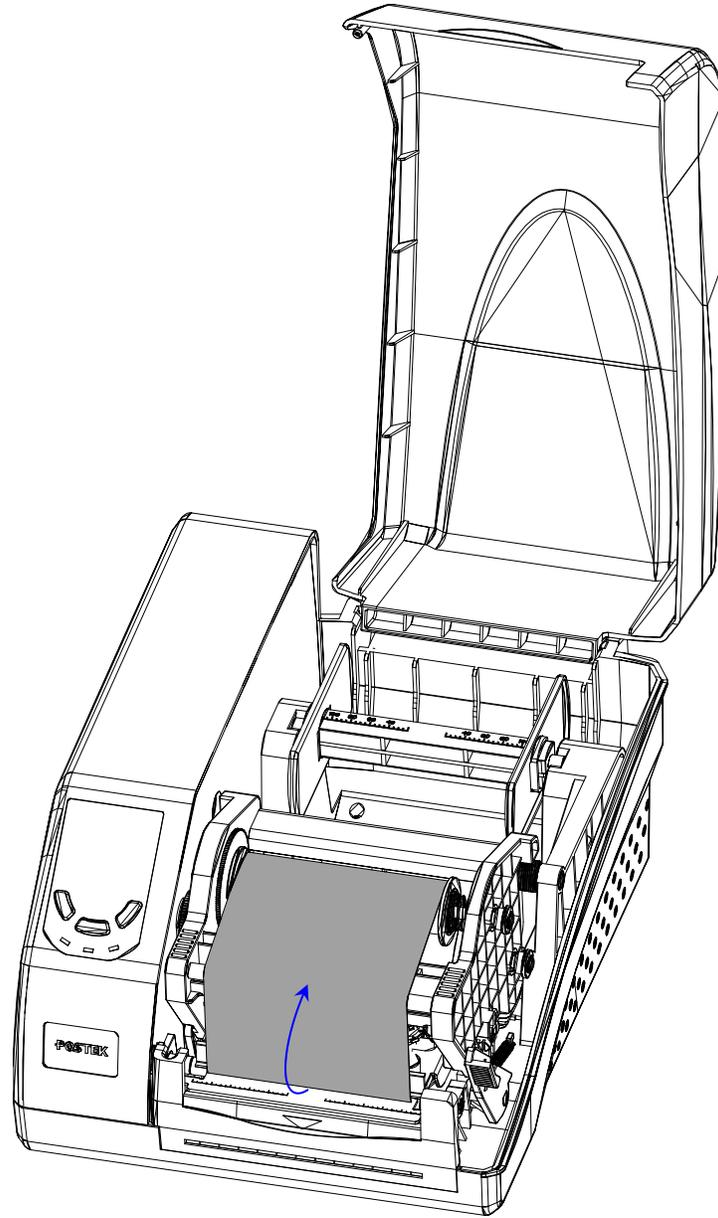

Figure 5-6
7. Load the core into the Ribbon take up area (see Figure 5-6).